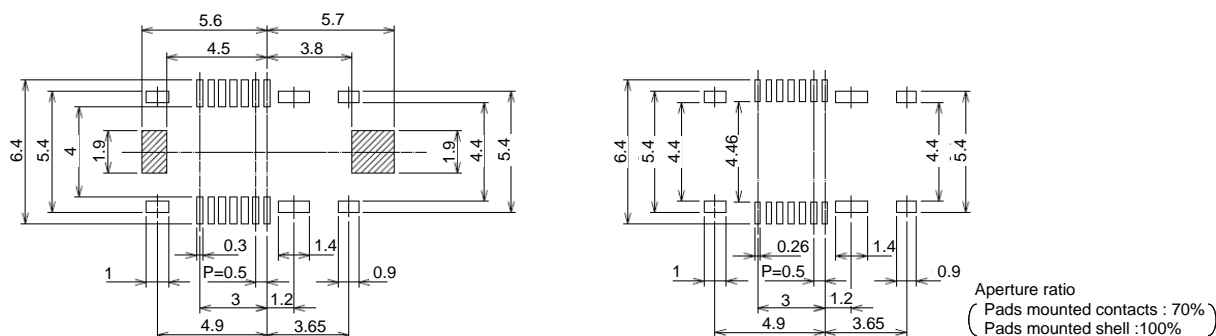

Figure 2.4 (A) Land pattern and metal mask recommended for TX/RX receptacles
**Note 3** : The hatched areas in Figure 2.4(A) are close to metal shell, and there is a possibility of a short circuit. Make sure not to locate a Via without a solder mask.